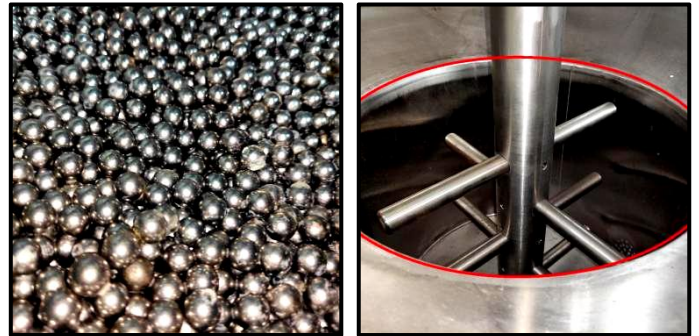

Figure 12: Face view of grinding steel beads/Where the steel balls are placed
- ① The grinding steel ball should be added to the top of the covering mixing rod is suitable for  **Figure 12: Where the steel ball is placed.** Pour the melted cocoa butter or cooking oil into the cylinder body to drown the steel beads.
- ② At this time, the insulation sandwich should be filled with water. The operator should set the temperature in the control panel, turn on the heating, and start the stirring. The speed should not be set too fast.
- ③ After stirring for an hour, open the outlet, release the cooking oil or cocoa butter in the cylinder, and close the outlet. Add new oil again to repeat the cleaning process, it is recommended to repeat 3-4 times, the operator observes the internal cleaning of the cylinder block, after meeting the production requirements (if the grinding steel beads are kept inside the cylinder block), and finish the cleaning.